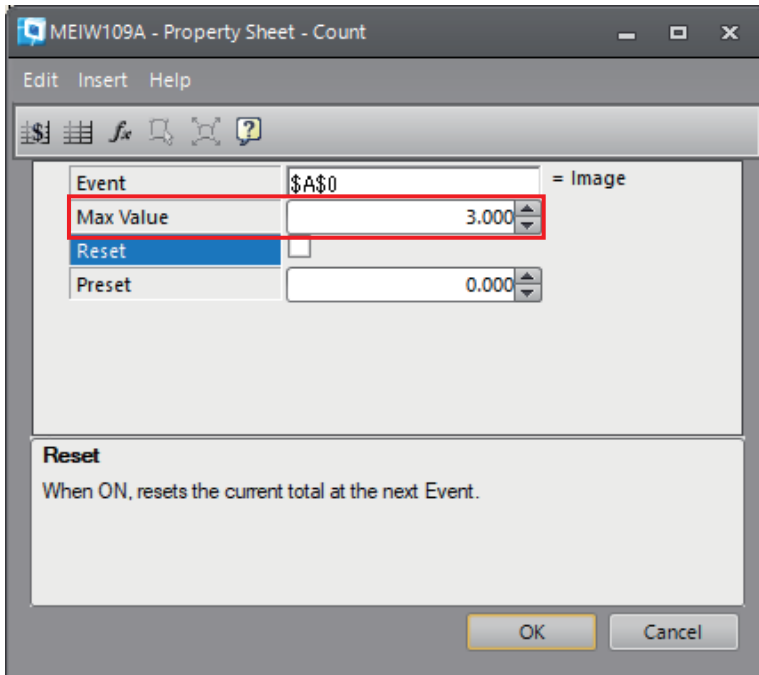

Figure 21 Count function property sheet
(1) Use the Count function to count the number of triggers (Figure 21). Set 3 for "Max Value" to capture an image four times. By doing so, the count value is incremented as 1 → 2 → 3 → 0 (4), so it is reset to zero on the fourth image capture.